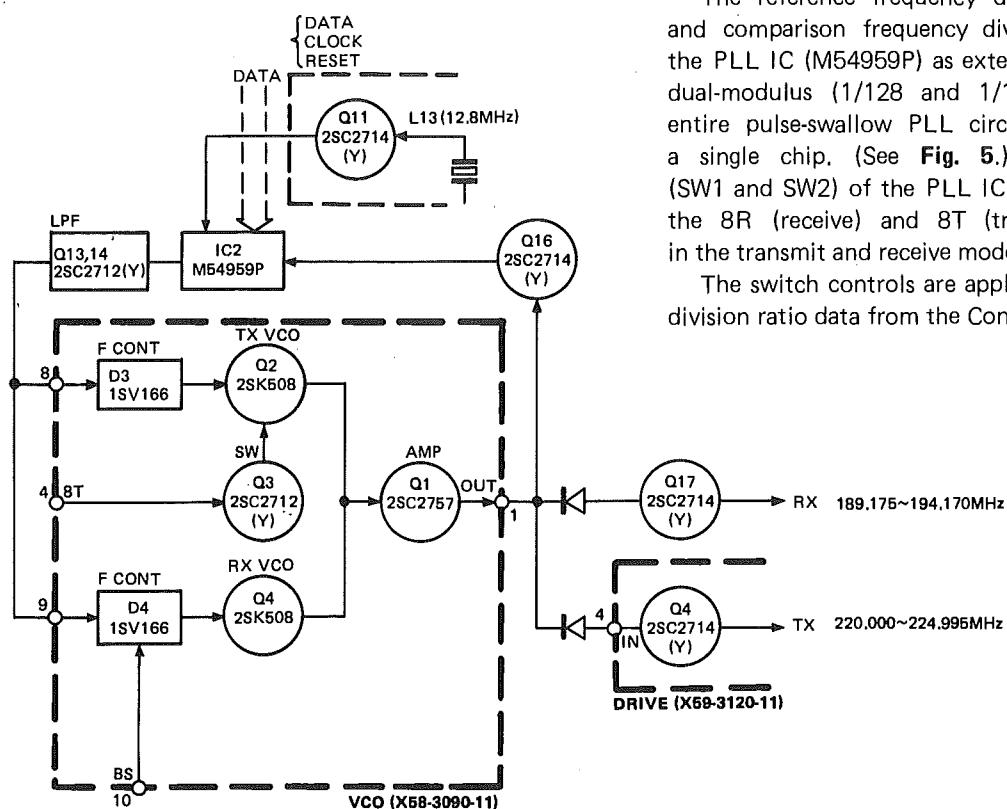

Fig. 4 PLL system block diagram
**Fig. 4** is the PLL system block diagram. The transmitter and receiver systems of the TM-321A has independent VCOs and PLLs, but share a common low-pass filter.